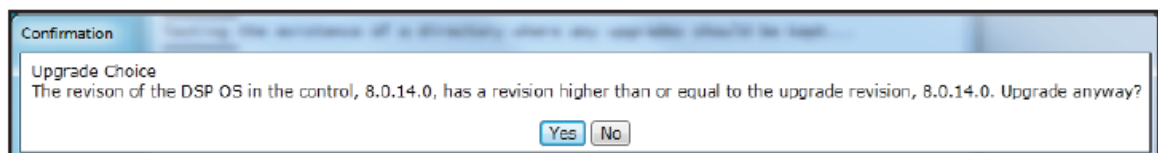

Figure 23. The Confirmation dialog box.
- **STEP 4.** If any of the software components installed in the control have the same or later version number as the version being downloaded, a message similar to that shown in Figure 23 will appear. Click on the Yes button unless instructed otherwise by an S&C representative.